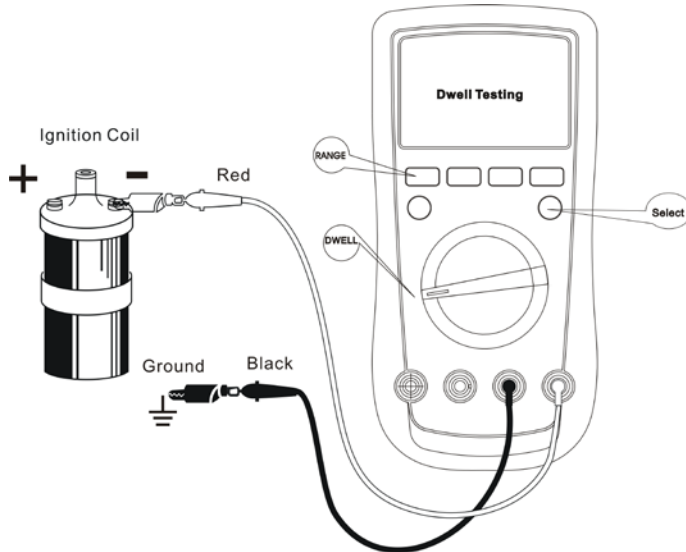

Figure 13
J. Dwell Testing (see figure 13)